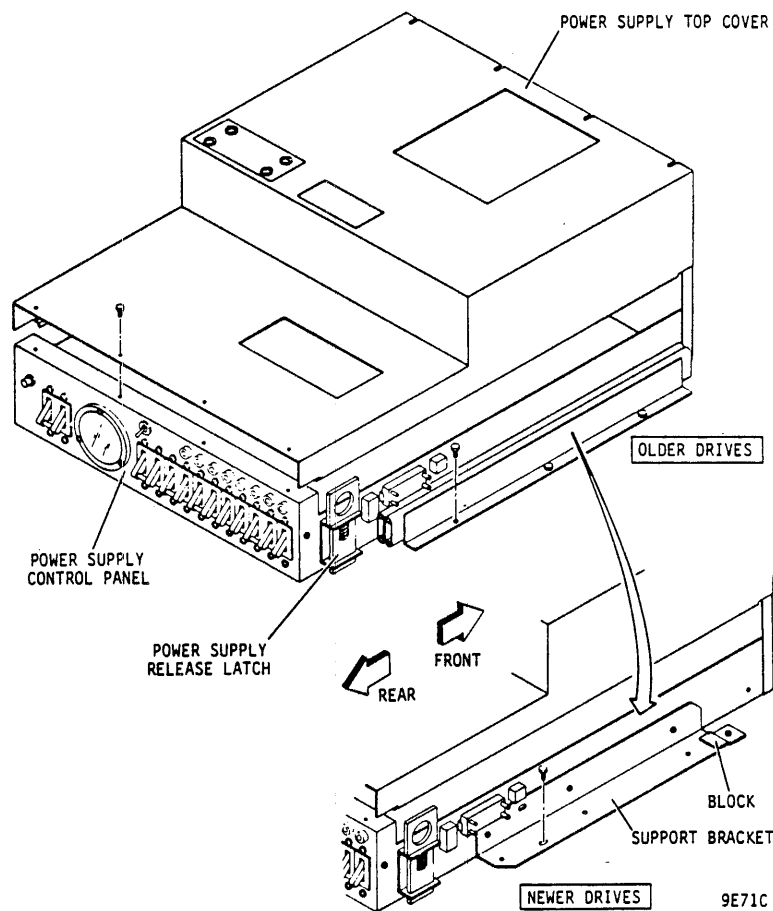
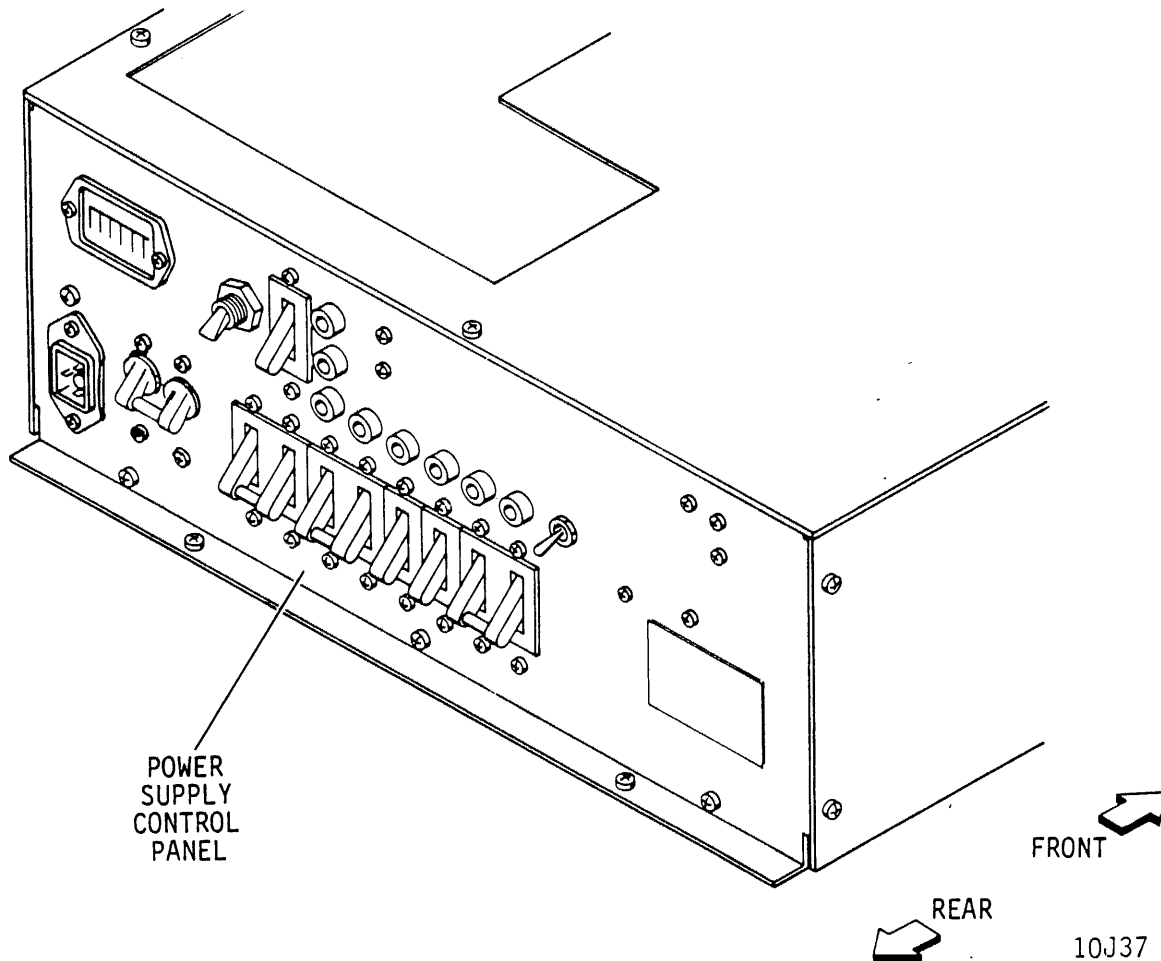

Figure 2-9. Power Supply (Non-VDE)
Figure 2-10. Power Supply (VDE)
Two types of power supplies are used in the drives. Their physical appearance and mounting methods differ significantly. The power supply shown in figure 2-9 is used on all Non-VDE units. The power supply shown in figure 2-10 is used on all VDE units.
2. Lift power supply release latch (refer to figure 2-9) and pull power supply out to maintenance position.
When the power supply is in the maintenance position, the top cover can be removed to provide access to the inside of the supply. The top cover is removed by first removing the screws at the rear of the cover (refer to figure 2-9) then loosening the screws at the front of the cover and slipping the cover off.
The power supply shown in figure 2-10, is mounted directly to the cabinet base. A lip at the back edge of the power supply slides under a bracket secured to the cabinet base. Two #10-24 x 3/8 self tapping screws and external tooth lockwashers secure the front edge of the power supply to the cabinet base.